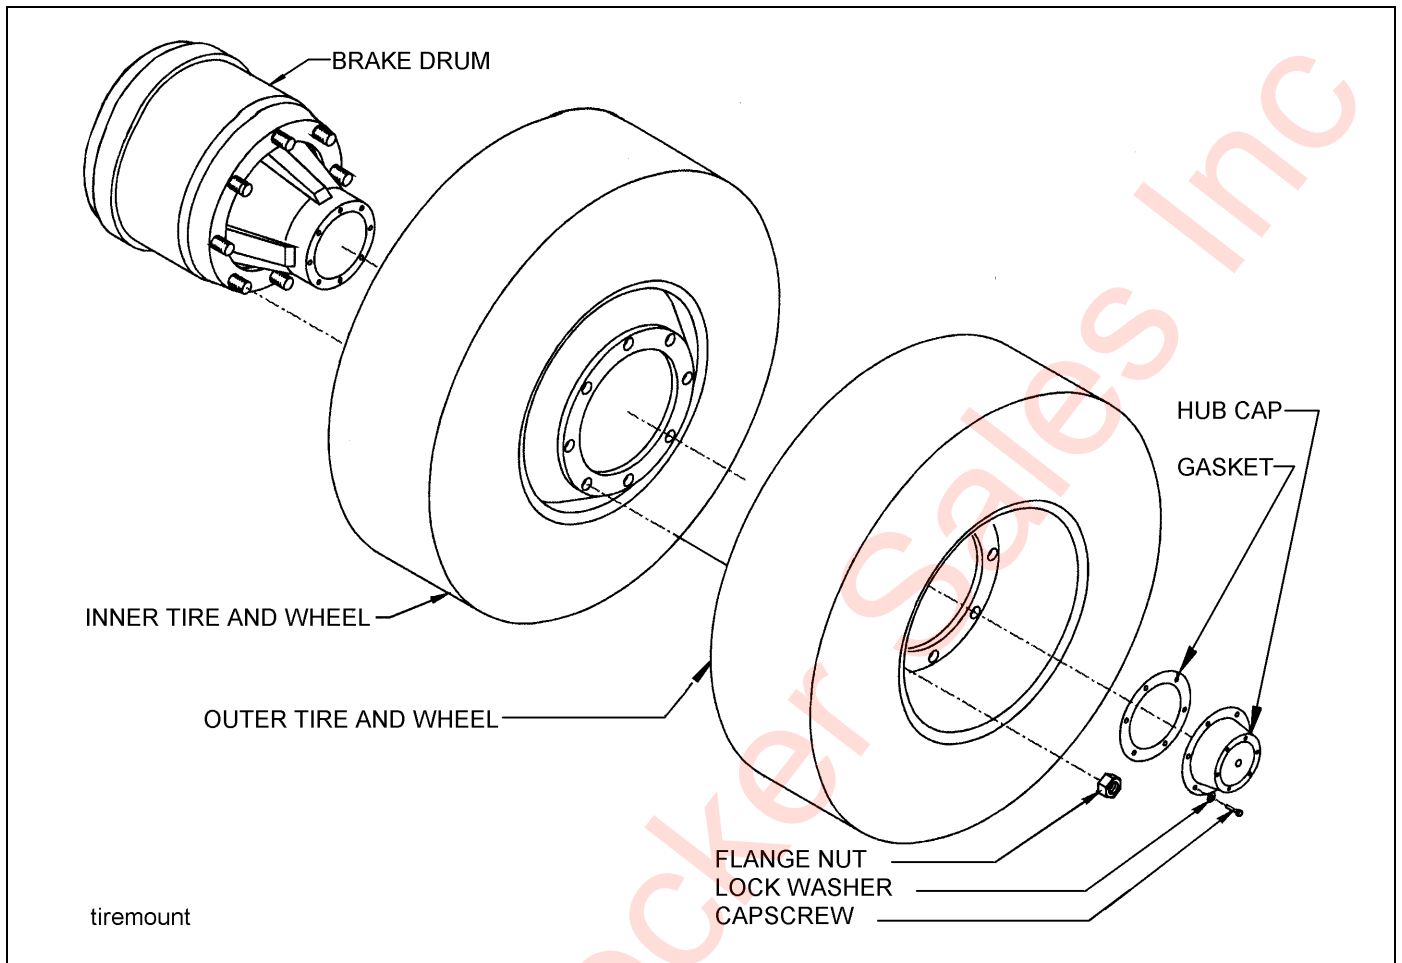

Figure 4-19: Mounting Tires and Wheels
1. Make sure that all mounting surfaces are clean and free of rust, dirt or paint. A wire brush may be used to clean these surfaces (**See Figure 4-19.**)